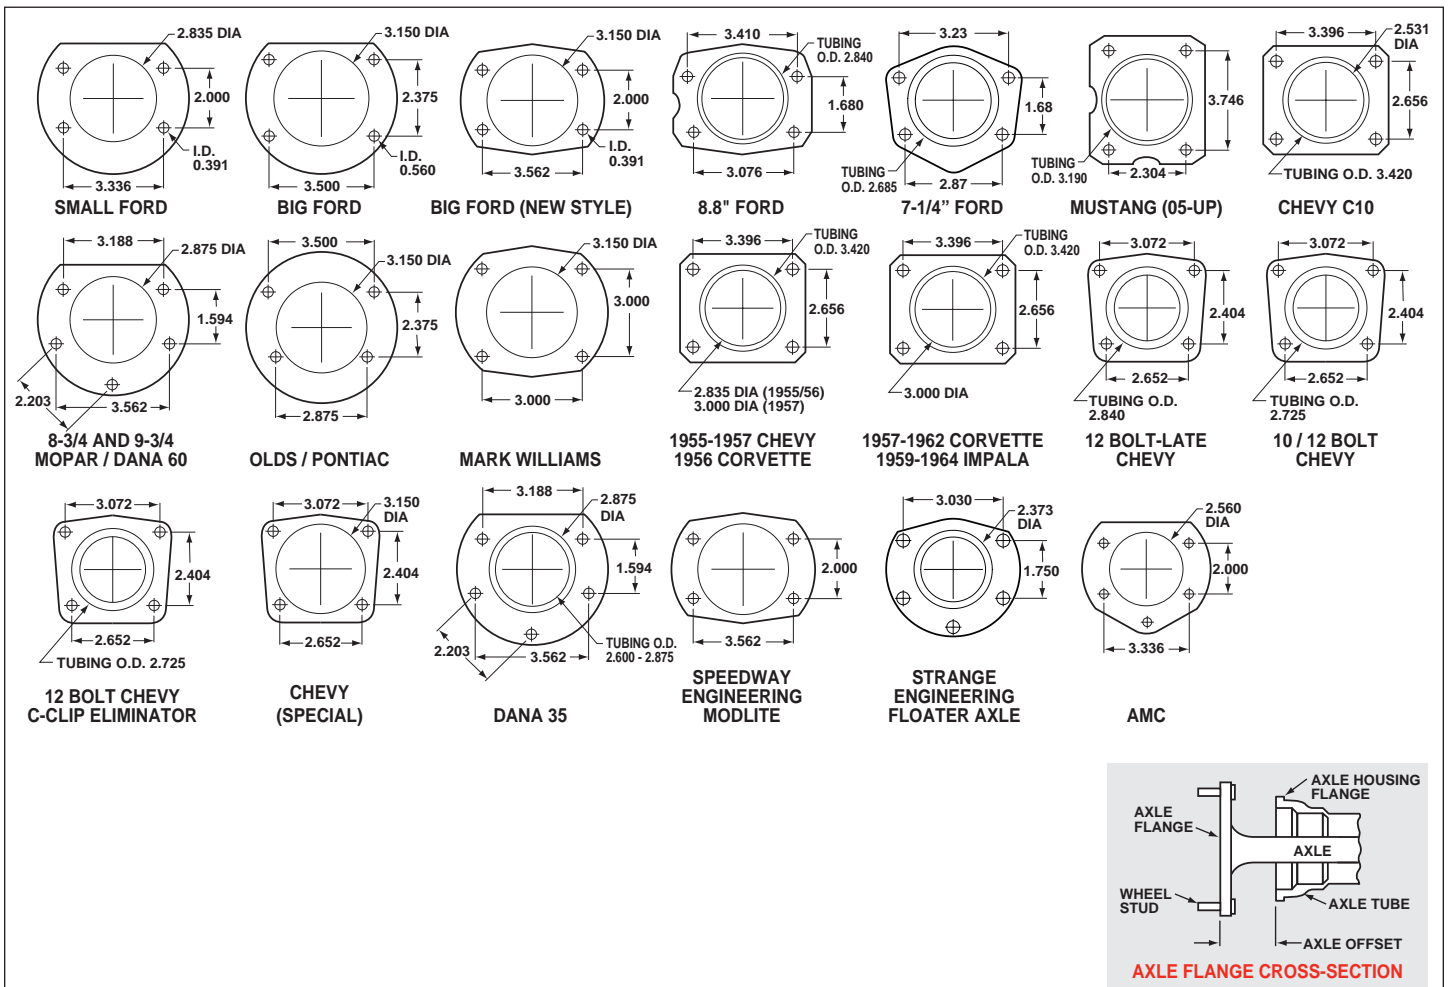

Figure 4. Rear Housing Flange Chart and Axle Flange / Offset Cross-Section
- Make sure this is the correct kit to fit the axle housing flange, not necessarily the rear end make. Many times aftermarket manufacturers put a different make of axle housing flange on the stock rear end housing (Figure 4). Example; Big Ford rear ends with Olds-Pontiac flanges, therefore, an Olds-Pontiac rear disc brake kit would be the correct kit to order. Also, shock clearance may be a problem. They may have to be modified and/or relocated to clear the Wilwood kit after final assembly.
- Dimension from wheel side of axle flange to wheel side of axle housing flange (see Figure 4, lower right hand corner). This dimension is critical to ensure proper alignment of the rotor to the caliper, and should match offset given in the kit description.